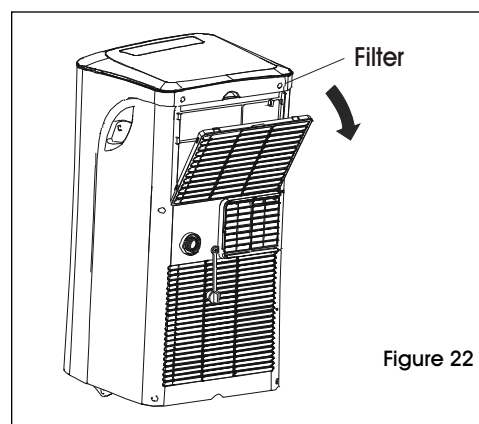

Figure 22
- This unit has one filter. Grasp the upper panel tab and take off the filter behind the grill of the back panel. (See Figure 22)